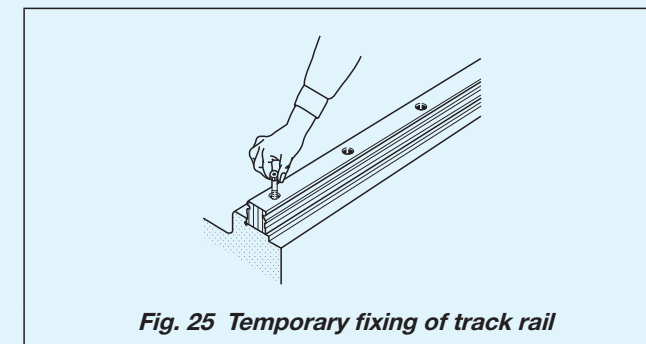

Fig. 25 Temporary fixing of track rail
② Temporary fixing of Linear Way I and II track rails
- Align and temporarily fix them with reference mounting surface of each Linear Way track rail. (See Fig. 25)